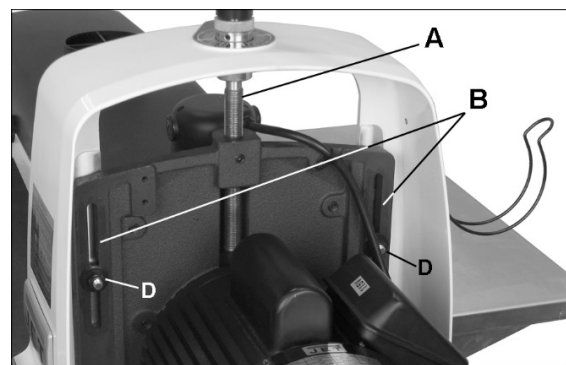

Figure 10-1: maintenance areas
- Lubricate elevating leadscrew (A, Figure 10-1) as needed.
- Keep slide areas clean (B, Figure 10-1).
If the height control mechanism does not operate easily or smoothly or there is excessive vertical movement or deflection of the drum carriage tighten all four (4) lock nuts (D, Figure 10-1) and then loosen them 1/8 to 1/4 turn. If the lock nuts are set too tight, height control will not operate easily. If the lock nuts are too loose, excessive deflection of the outboard end of the drum carriage will result.